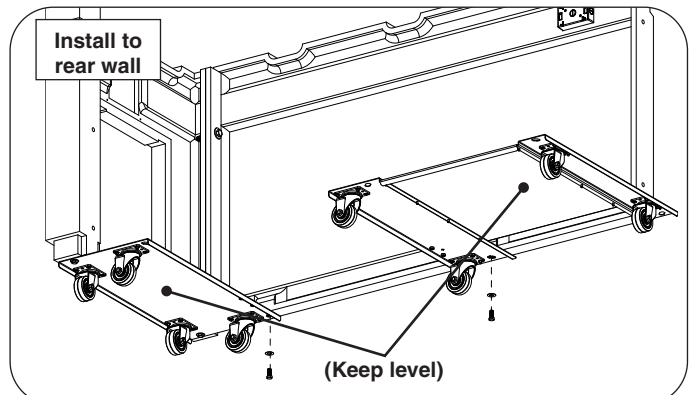

Fig. 2-3 Install wheel assemblies to bottom of rear wall
2. Repeat for the rear wall using the two wheel assemblies as shown in Fig. 2-3.